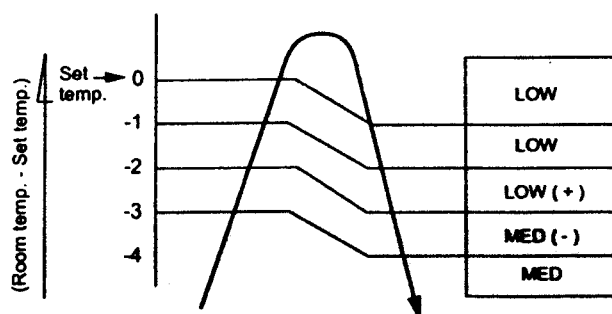

Fig. 8-23
- (1) Once the setting is made, the operation mode is memorized in the microcomputer so that the same operation can be effected thereafter simply by pushing the START/STOP button.
- (2) Relay RY07, RY08 are turned on to energize the outdoor unit, and a heat operation is carried out. The indoor fan motor operates as shown in Fig. 8-23, when FAN SPEED button is set to AUTO. The motor operates with a constant air volume as listed in table 8-2, when the FAN SPEED button is set to LOW, MED, or HIGH.